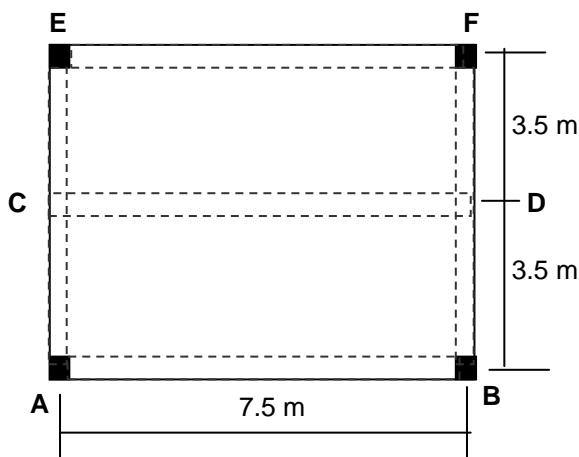
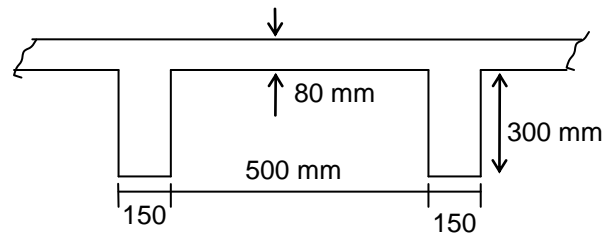

Fig. 1
Fig. 2
The floor shown in Fig.1, part of 3-story building, is to be designed by two alternative methods: **as a solid one way slab** and **as a void one way joist slab of a typical section shown in Fig.2.**
**The typical rib cross-section used is shown in Fig.2. Ribs are spanned in the short direction.**